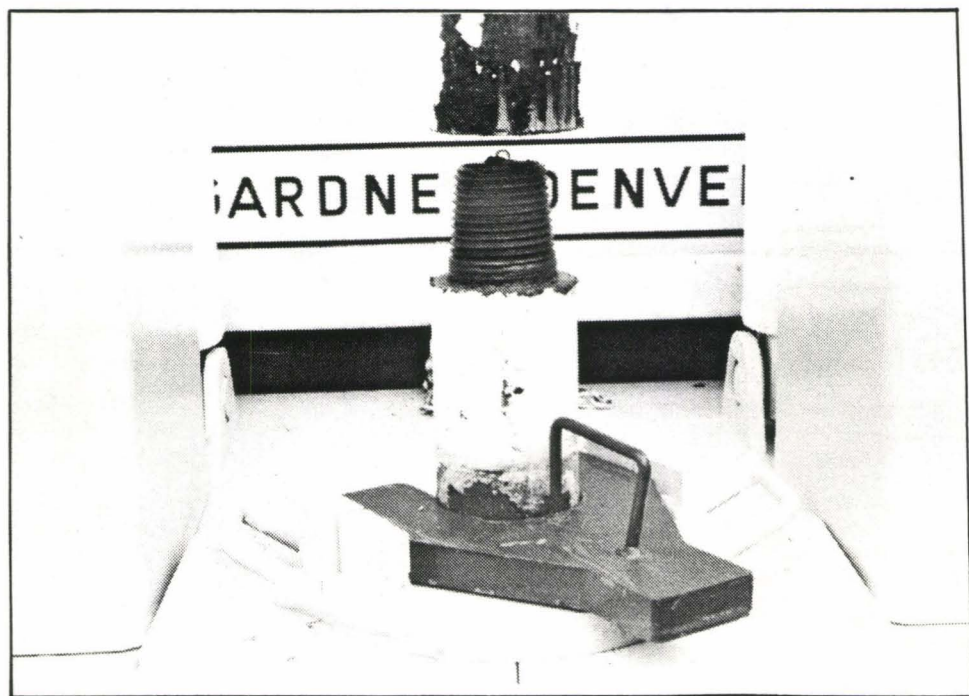

Figure 3.12.1d
- g. Retract TONG CYLINDER rotating sub to unthread it from drill pipe (Figure 3.12.1d).